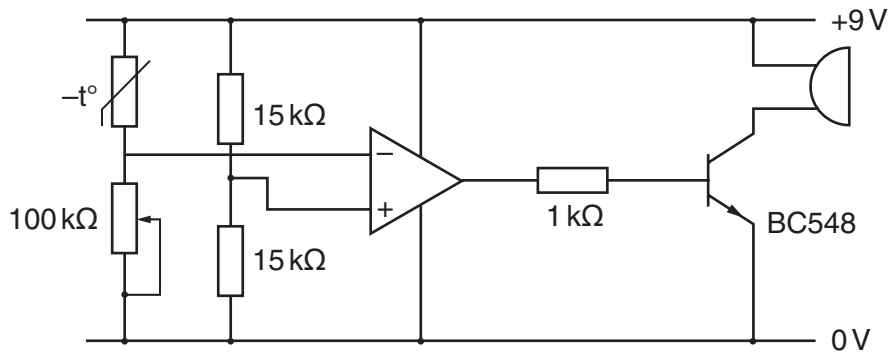

Fig. 9
- 4 The glasshouse has a frost alarm installed to alert the gardener to the danger of low temperature to the plants. Fig. 9 shows a diagram for an incomplete circuit for a frost alarm.
- (a) (i) Draw a  $1\text{ M}\Omega$  feedback resistor on the circuit diagram in Fig. 9. [2]